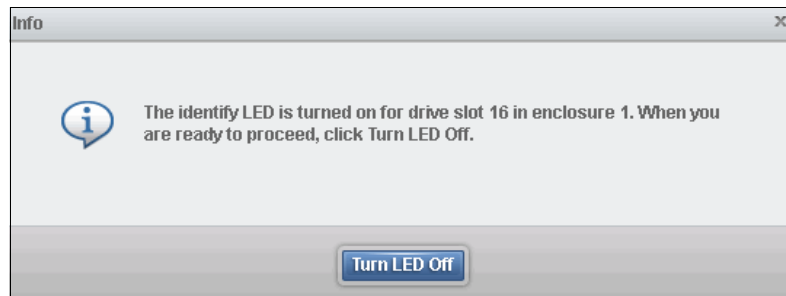

Figure 7-12 Internal drive identification
1. The pane that is shown in Figure 7-12 opens when the LED is on.